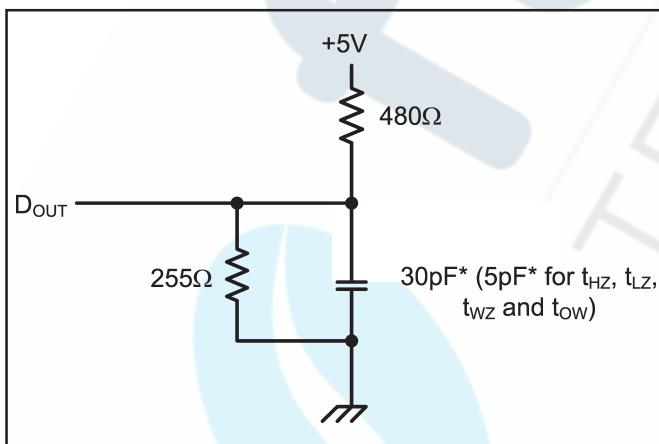

Figure 1. Output Load
7. Transition is measured $\pm 200\text{mV}$ from steady state voltage prior to change with specified loading in Figure 1. This parameter is sampled and not 100% tested.
Output Load	See Figures 1 and 2